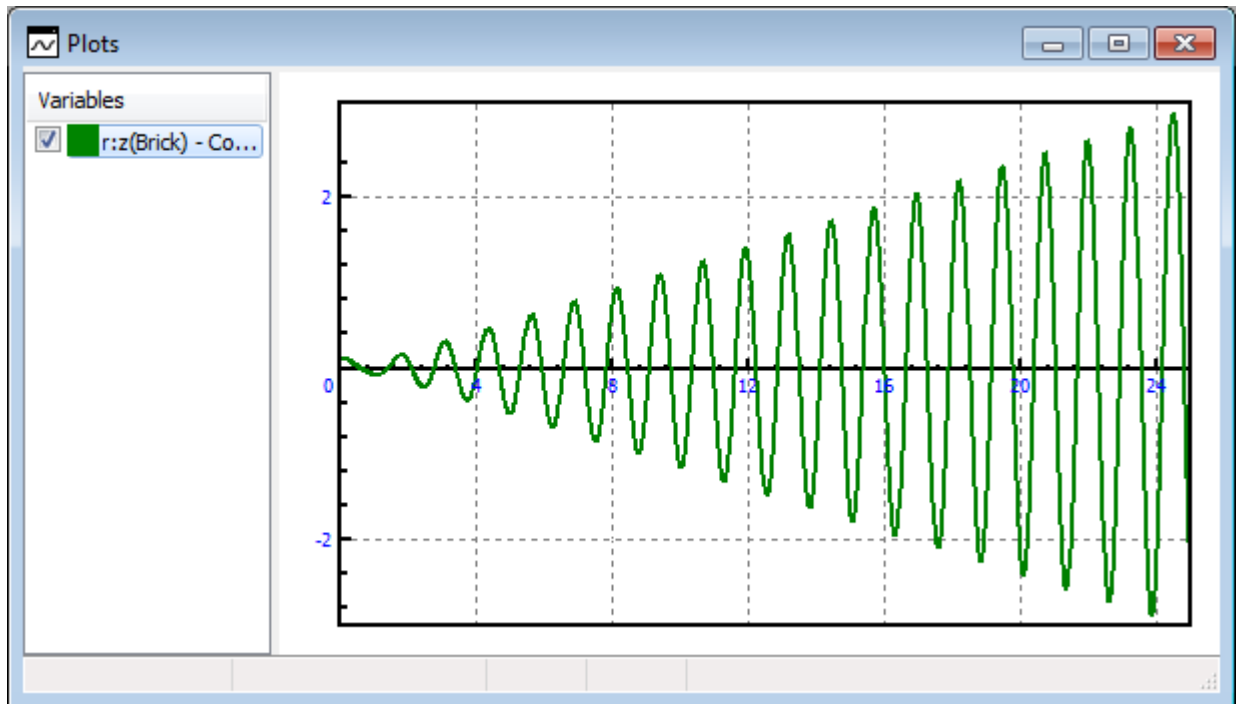

Figure 2.26. Forced oscillations: resonance case
3. Run integration. As we expected in the resonance case the amplitude of the oscillations increases in the long run, see in the Figure 2.26.